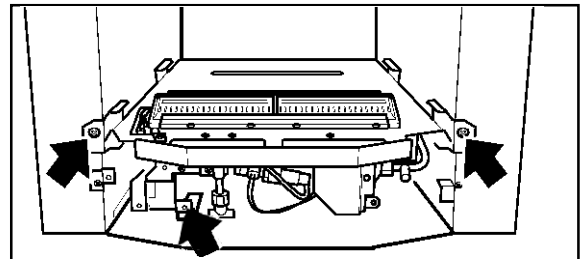

Fig. 8 Burner Attachment Points
4.2.3 Detach the burner unit from the convection box by removing three screws. See figure 8. Lift the burner unit clear.